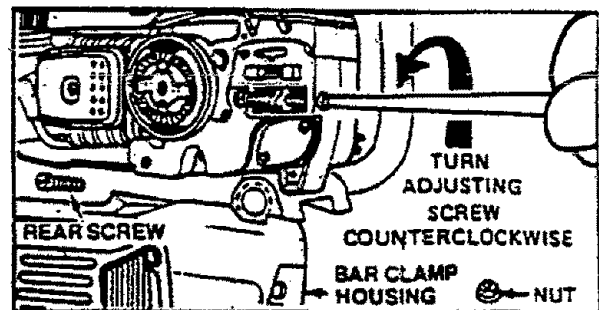

Figure 6
- Remove the following parts as shown in Figure 6, using the Bar Adjusting Tool.
- Turn the Adjusting Screw counterclockwise to move the Adjusting Pin almost as far as it will go to the rear. Figure 6.
CAUTION: Make sure that the tab on the bottom of the fuel tank is aligned in the slot provided in the fan housing. See inset, Figure 6.